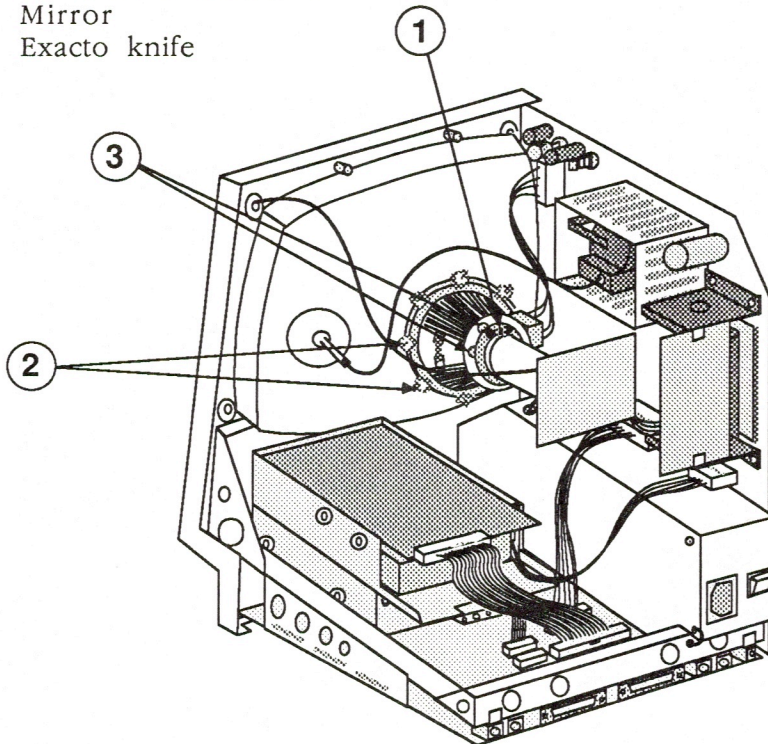

FIGURE 1
4. Loosen the yoke clamp screw (Figure 1, #1) at the top of the CRT neck two or three turns.
6. Put one hand behind your back and with your other hand grasp only the plastic spokes of the yoke collar (Figure 1, #2). Rotate the yoke until the top and bottom edges of the picture appear parallel with the top and bottom edges of the bezel.
4. Locate the two centering rings on the yoke assembly (Figure 1, #3). The adjustment of these rings determines whether the picture is centered or offset to one side.